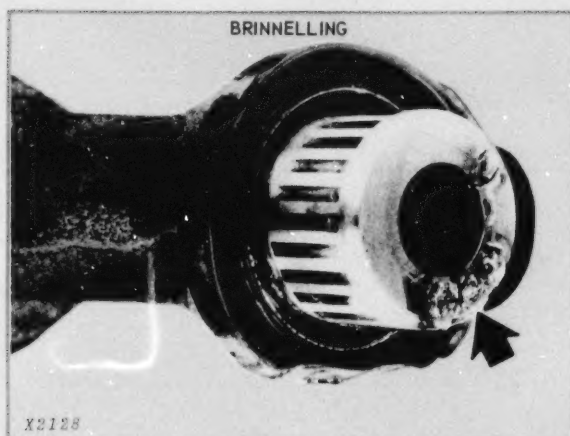

Fig. 12—Failures Of U-Joint Journals
4. Brinelling of U-joint journal (Fig. 12)	Excessive metal fatigue Poor heat treatment
5. Galling of U-joint journal cross ends (Fig. 12)	Drive shaft rpm too high